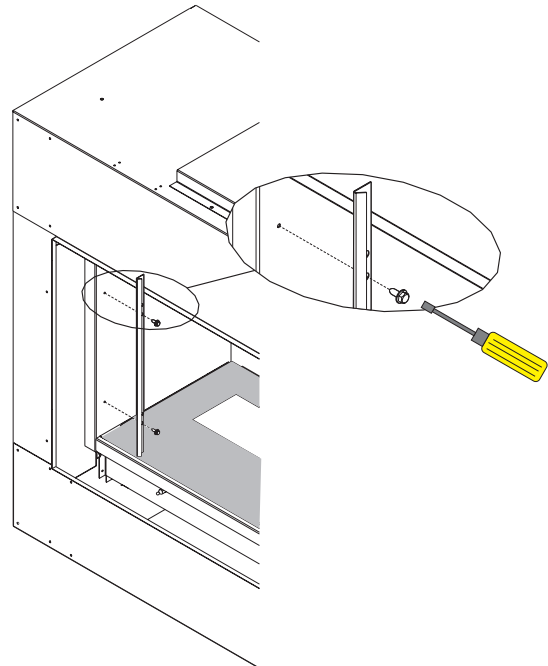

Figure 1
5. Use a 5/16" Nut Driver to install the two Side Retainer Brackets at the front left and right side openings of the firebox with two 5/16 X 1/2" screws each. These brackets must be installed so the angle break is facing rearward. **See Figures 1 and 2.**